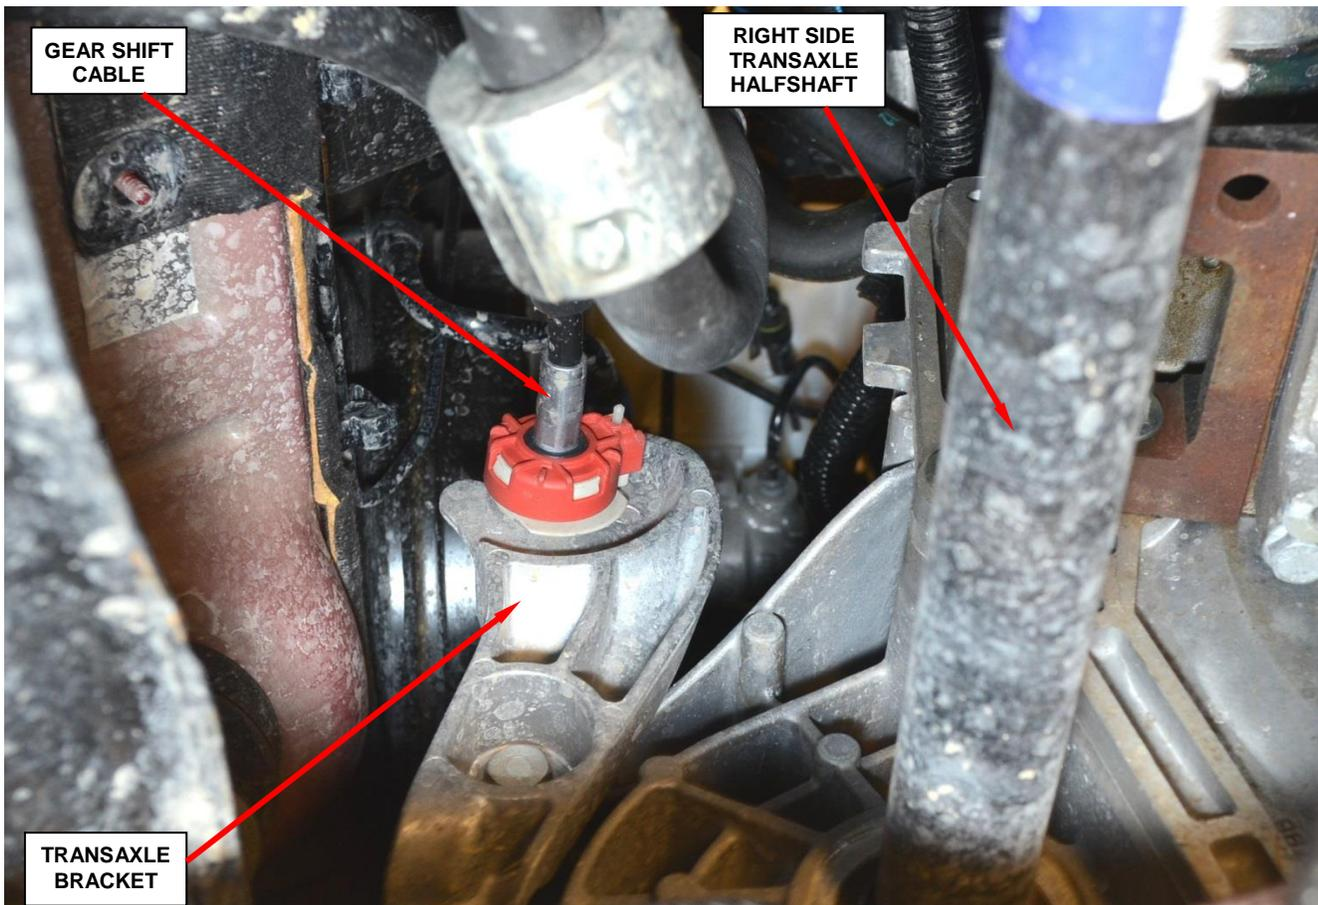

Figure 5 – Gear Shift Cable Transaxle Bracket
15. Unsnap the gear shift cable from the transaxle bracket (Figure 5).